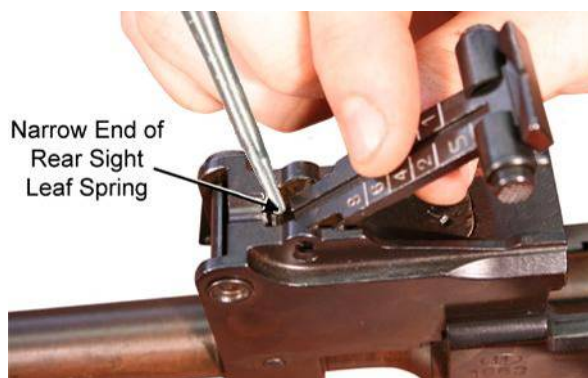

Figure 11. Dislodging the Rear Sight Assembly for Removal.
- c. Tilt the rear sight assembly to a 45° angle. While pressing down and forward on the narrow, forward end of the rear sight leaf spring with a punch or flat head screw driver, hold the rear sight assembly with fingers and press down firmly to remove the rear sight assembly studs from the holes in the rear sight base. Refer to Figure 11.